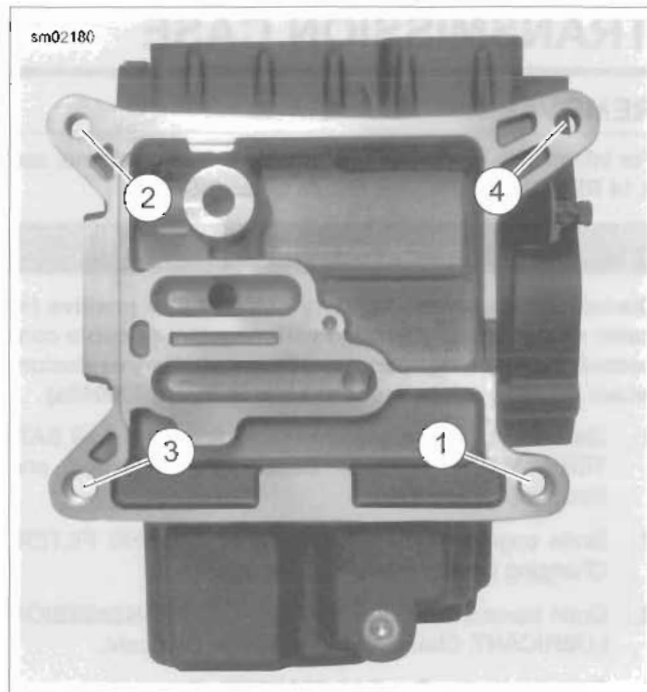

Figure 6-51. Transmission Housing to Crankcase Torque Sequence
4. See Figure 6-51. Verify that transmission dowels are seated. Place transmission case into position behind crankcase. Mate engine and transmission flanges.